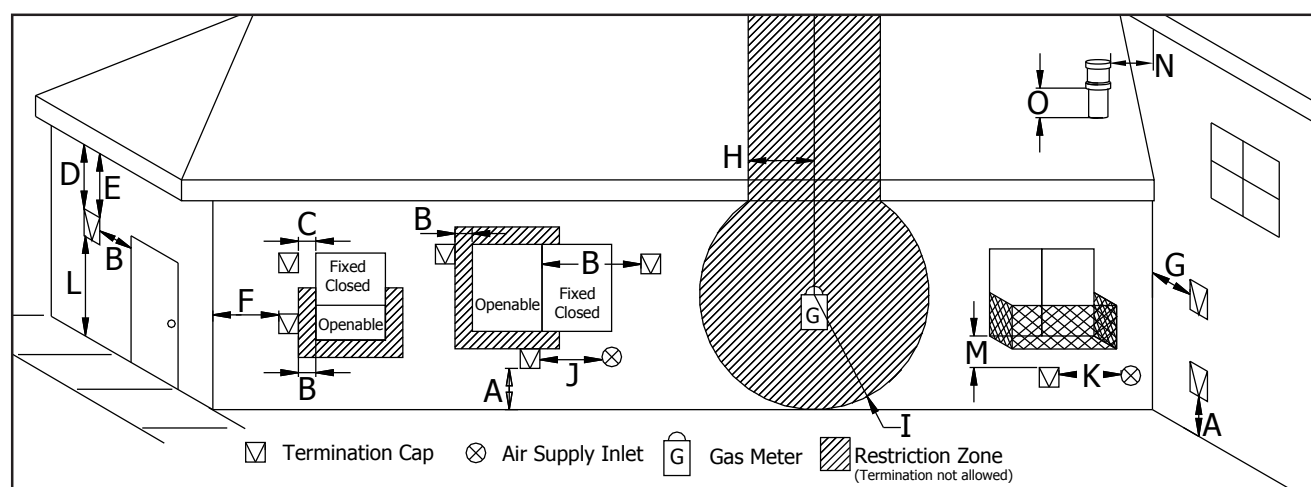
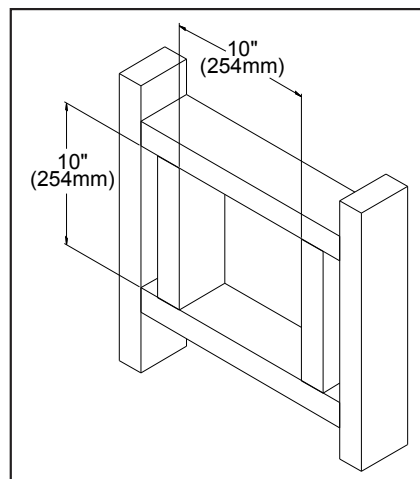

Figure 24: Vent Termination Restrictions, refer to Table 7.
Figure 27: Wall Framing Hole for Horizontal Installation.
Table 7: Vent termination clearances, refer to Figure 24.
3. With the pipe attached to the stove in the correct location, mark the wall for a 10" (25.4cm) x 10" (25.4 cm) square hole (refer to Figure 27). The center of the square hole should match the center line of the horizontal pipe. Cut and frame the 10" (25.4cm) x 10" (25.4cm) hole in the exterior wall where the vent will be terminated. Refer to Figure 24 and Table 7. If the wall being penetrated is constructed of non-combustible material i.e. masonry or concrete, a 7" (17.8cm) hole is acceptable.
4. Position the horizontal vent termination in the center of the 10" (25.4cm) x 10" (25.4cm) hole, and attach to the exterior wall with the four (4) screws provided. Before attaching the vent termination to the exterior wall, run a bead of non-hardening mastic around the edges, so as to make a seal between
Cut a 10" (25.4 cm) minimum hole in the wall to maintain clearances to combustibles. Frame hole as shown in Figure 27.